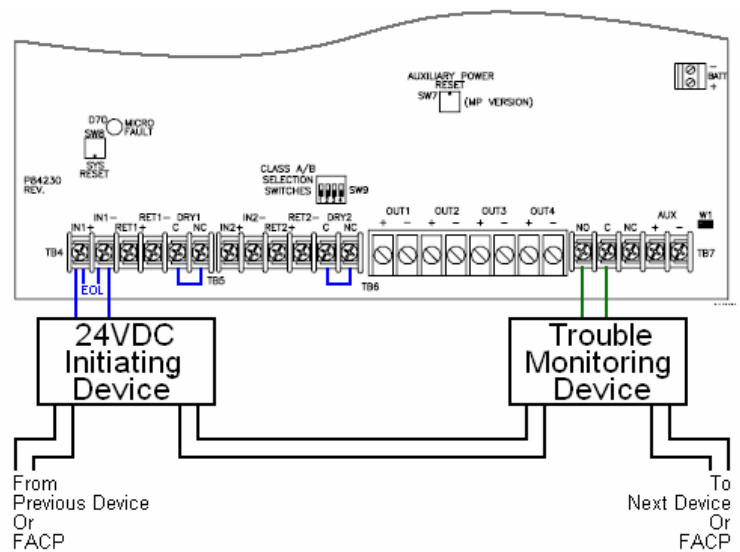

Figure 2
- The 24VDC initiating devices are connected to IN+ and IN- terminals as in Figure 2.
- The EOL device needed for many of these types of modules needs to be connected across the IN+ and IN- terminals as well, see Figure 2. Do not connect the EOL device across the RET+ and RET- terminals.
- The monitoring device needs to be connected to Common Trouble Output the C and NC terminals of the PS-12/24-8CP/MP as in Figure 2.